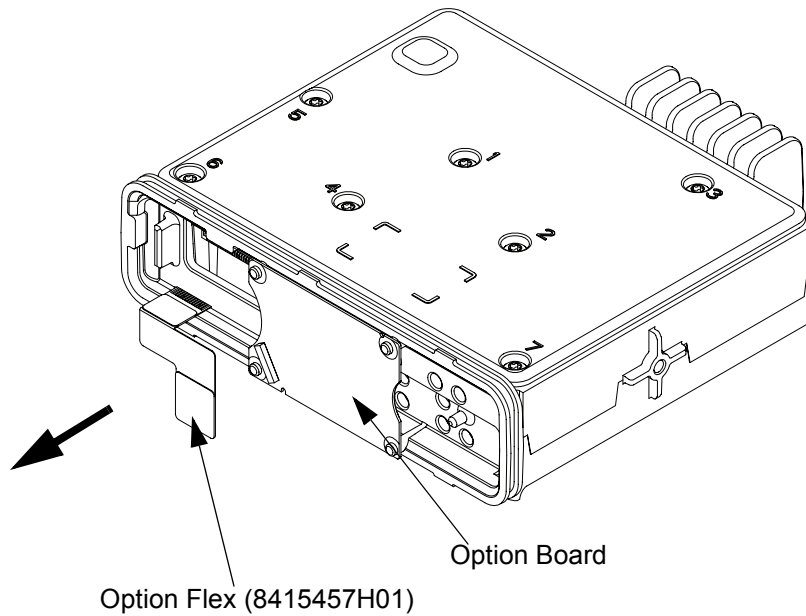

Figure 5-19 Removing Option Flex from Option Board
1. Remove option flex from the radio assembly and option board as shown in Figure 5-19.